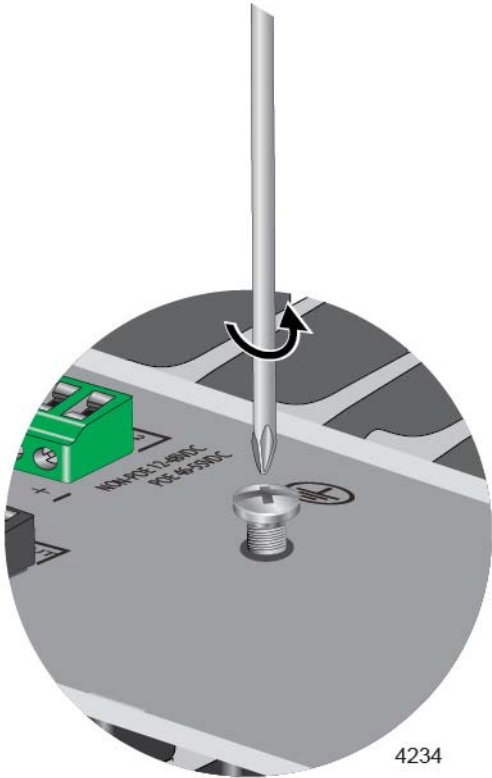

Figure 31. Loosening the Grounding Screw
2. Loosen the grounding screw several turns with a #2 Phillips-head screwdriver. Refer to Figure 31 on page 81.